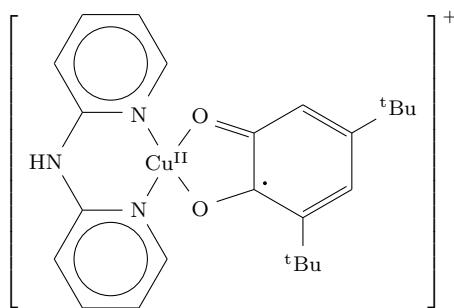

Figure 6.5: Designing a compound with orthogonal electrons.
- The compound in Figure 6.5 is composed of a dipyridyl and semiquinoid ligand on copper. It is overall a monocation.